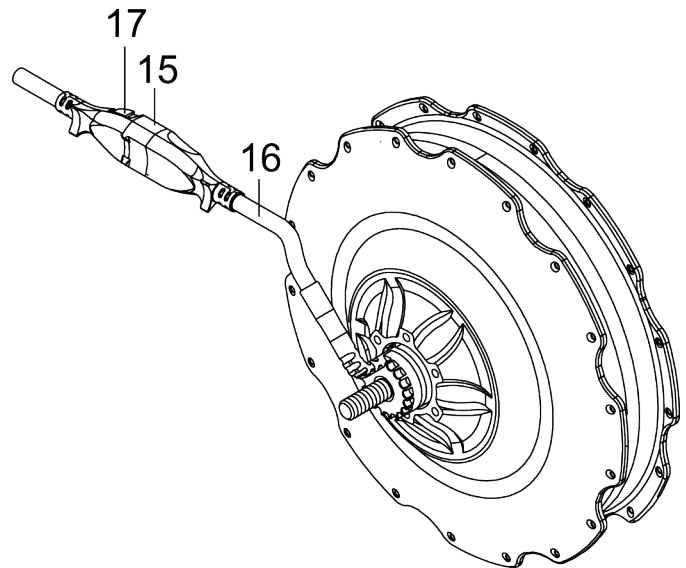
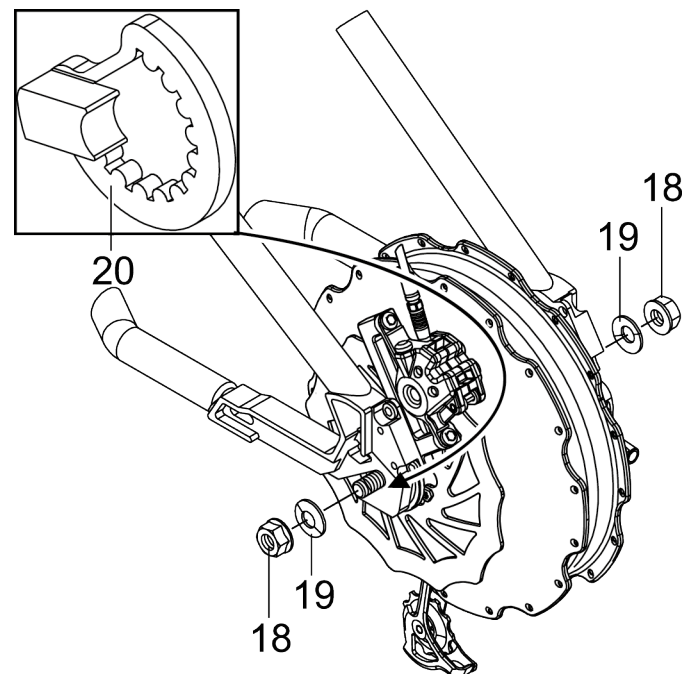

Fig. 11: Cable connection to wheel hub motor
Fig. 14: Attachment to the fork [2] and torque arm
Before removing the drive wheel, note or memorize the cable routing as well as the fastening points of the cable ties. First loosen and remove all cable ties with which the cable [16] coming from the motor as well as cables and supply lines of other components are fastened to the bicycle frame. Then disconnect the plug [15] on the motor cable [16] from the socket [17] on the battery cable. Loosen the two nuts [18] or the quick release with which the wheel is attached to the frame so that the complete wheel can be removed from the frame of your handbike. **(Fig. 14)(Fig. 11).**
Note or mark the position of the torque arm [20]. When attaching the wheel later, it must be attached in exactly the same position as before removal. **(Fig. 14).**
- then tighten on the brake side (**Fig. 14**)
Never mount the motor without the torque arm [20]. This would result in a total loss (twisting off of the cable). In this case, all guarantee and warranty claims are void. (**Fig. 14**).